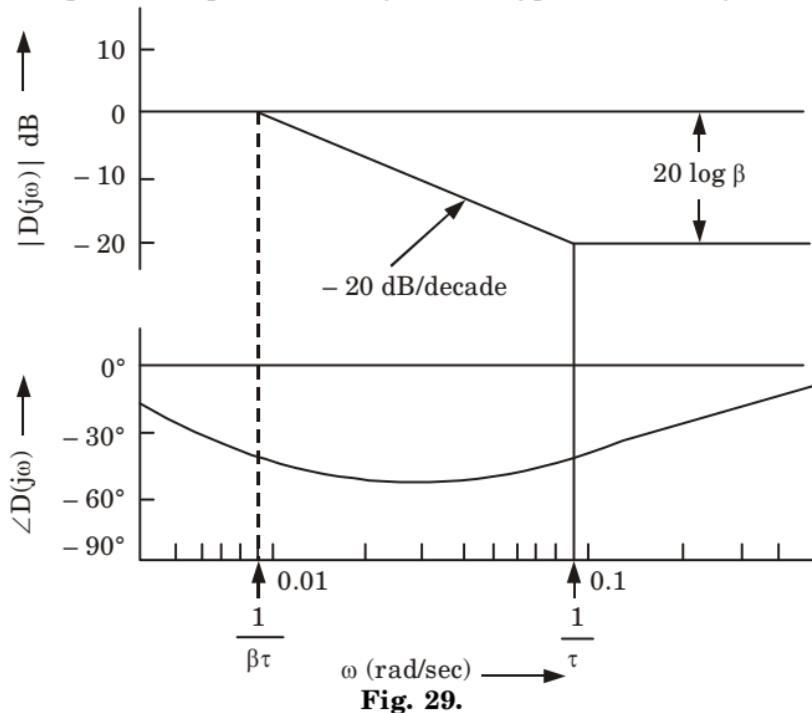

Fig. 29.
3. The bode plot of $D(j\omega)$, shown in Fig. 29, has two corner frequencies at $\omega = 1/\beta\tau$ and $\omega = 1/\tau$.
7. Fig. 29 also shows that in the high frequency range, the lag compensator has an attenuation of $20 \log \beta$ dB, which is the property that is utilized to give a system sufficient phase margin.